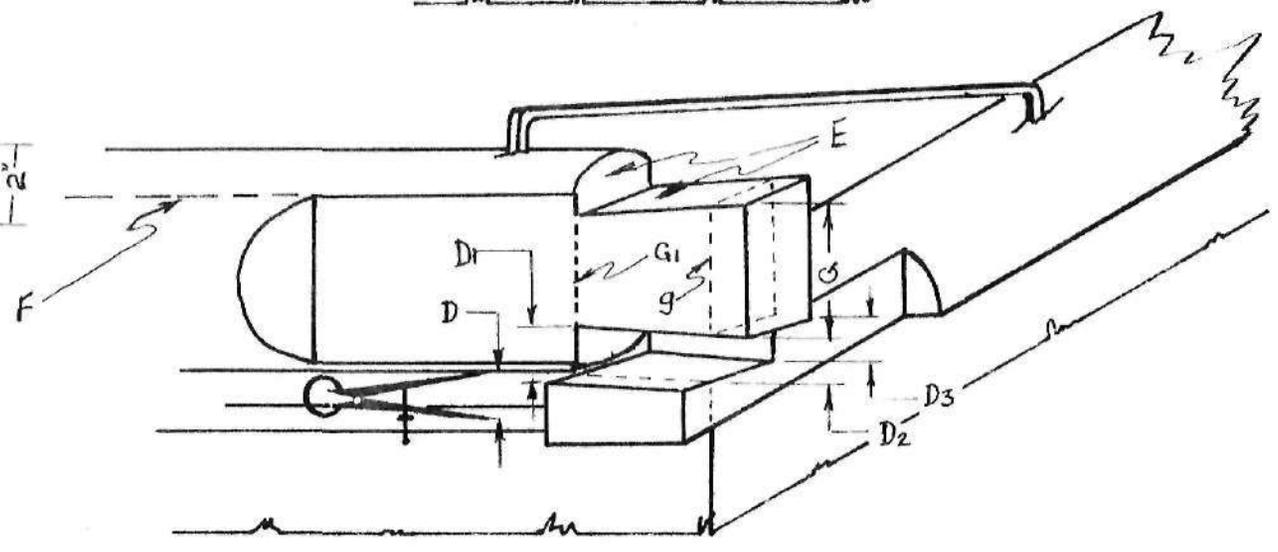

FIG. 4
When the ends have been flattened, turn the log belly up and in the exact position relative to the final position it is to occupy (Fig. 4) and secure it in place with a log dog. The hewn face must be truly vertical. By means of a pair of dividers, determine the distance the log is to be lowered (at each end) to meet the foundation (D, Fig. 4). Carefully transfer this measurement to the positions D1, D2, D3, and D4 (on the inside corner) and join these points with a pencil line on the hewn face of the log (for example, D1 to D2 and D3 to D4). When this has been done on each end of the log, the log may be turned over and the cut made. If the layout has been done with accuracy, the corner will show an excellent fit. Slight irregularities can be corrected by slipping the tip of a hand saw into the joint and working off any excess wood.
When the log is resting in place, the top cuts may be made (E, Fig. 4). Draw a plumb line ("g", Fig. 4) on the outside of the log and measure back the wall width (GI). Mark off about 1/2 the log diameter on this outside corner (G) then mark off the sloped line. To obtain uniformity in this, a template, as illustrated in Fig. 5, will be useful.
If the builder wishes to hew the logs flat for their full length, either inside or out or both, now is the time to do it. A chalk line may be snapped onto the top of the log between the flattened ends (F, Fig. 4). The single plane wall surface obtained this way is suited to a building constructed of large logs. Many solid and beautiful examples of hewn log buildings still exist in British Columbia, some of which are 150 years old. Shown here is the main trading post of the Hudson's Bay Company at Fort St. James, constructed in the French method of piece-en-piece. The meat cache is done in the same style. I include here a glimpse of a roof at Batoche, Sask., the only other example I have seen of this way of finishing the eaves. Of historical interest is the fact that the original trading post and meat cache were built under the North West Co. fur traders from Montreal, of which Alexander Mackenzie and Simon Fraser were partners. In 1821 when the Hudson's Bay Co. absorbed the Nor'Westers, a clerk's house was added to the Fort St. James establishment and this building (dovetail corner pictured on page 37) was built by a Scot using quite a different style. All three of the remaining structures are in remarkably good repair considering the lack of concern shown by governments toward what was once the chief fur trading post in New Caledonia and the onetime residence of James Douglas who was later to become British Columbia's first Governor.